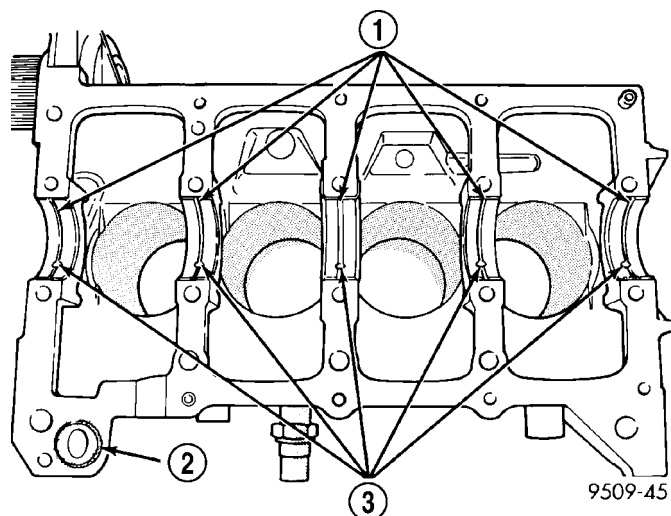

Fig. 59 Installing Main Bearing Upper Shell
(1) Install the main bearing upper shells with the lubrication groove and oil hole in the engine block. Install O-ring into recess in the block (Fig. 59).
(2) Make certain oil holes in block line up with oil hole in bearings and bearing tabs seat in the block tab slots.